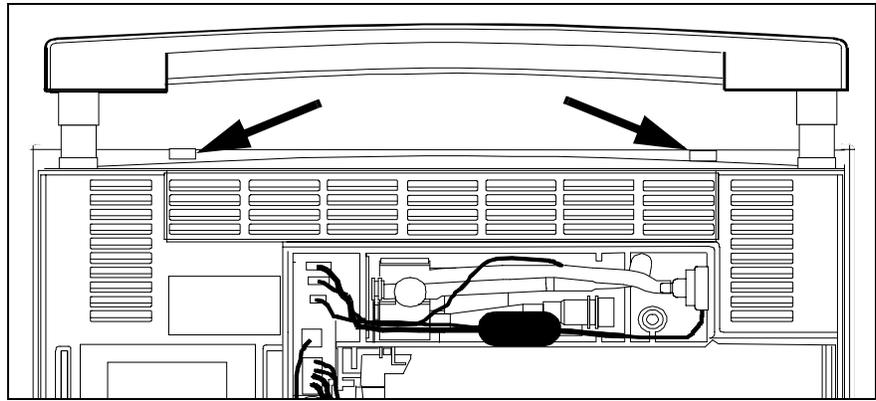

Figure 3-8 Top Release Tabs for Front Bezel Subassembly
- 5) Insert tip of small screwdriver into each of two release slots on top of monitor (see Figure 3-8), as you apply a slight tension between front bezel subassembly and rear housing, to slightly separate top of front bezel subassembly from rear housing.
Note: It is helpful to lift the handle as shown in Figure 3-8 to access the release slots.